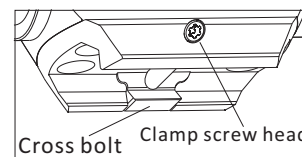

Fig 3
- First insert the appropriate Torx wrench into the clamp screw head, rotate to loosen the cross bolt and then slide the sight into the firearm rail to an appropriate position. Finally tighten the clamp screw. (Fig3)